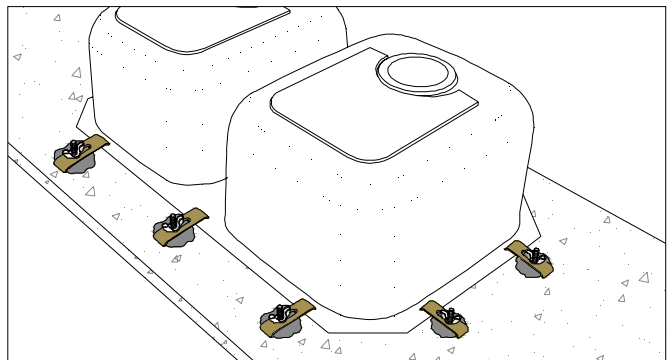

Figure 7C
- Check the alignment of the sink with the cutout. Then securely tighten the clamps. (FIG. 7C)